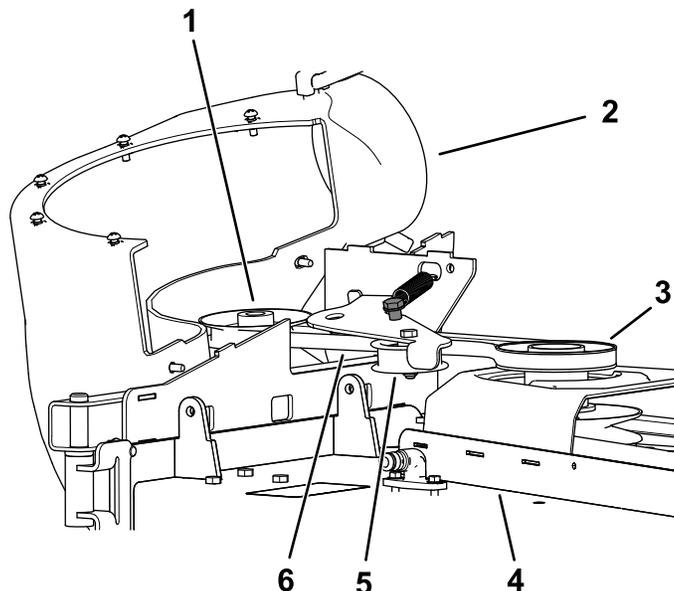

Figure 36
6. Install the new belt around the blower pulleys (Figure 36).
8. Install the new belt around the mower-deck pulley (Figure 36).
9. Pull back on the spring loaded idler pulley and install the belt onto the spring-loaded idler pulley (Figure 36).
2. Pull back on the spring-loaded idler pulley to relieve the belt tension (Figure 36).